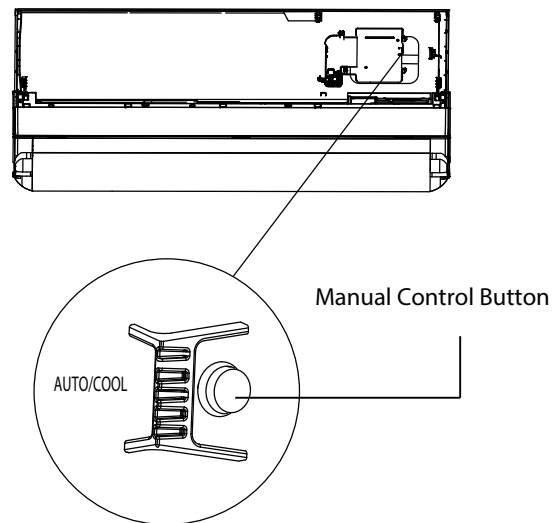

Fig. 32 —Test operation
Perform a test operation after completing gas leak and electrical safety check (see Fig. 32).
1. **MANUAL CONTROL** is located on the right-hand side of the display box located on the front panel of the indoor unit (see Fig. 32). Press the button two times to select the **COOL** function. Perform a Test Run as normal.